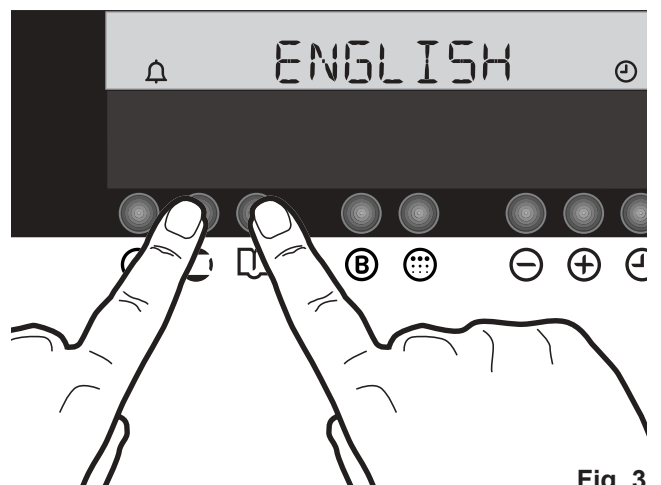

Fig. 3
1. Press the "Cooking Function Button" 🔥 and the "Recipe Selection Button" 📖 at the same time and keep them pressed for 2 seconds at least. The Electronic Control beeps once and the display shows the current language selection. (Fig. 3).